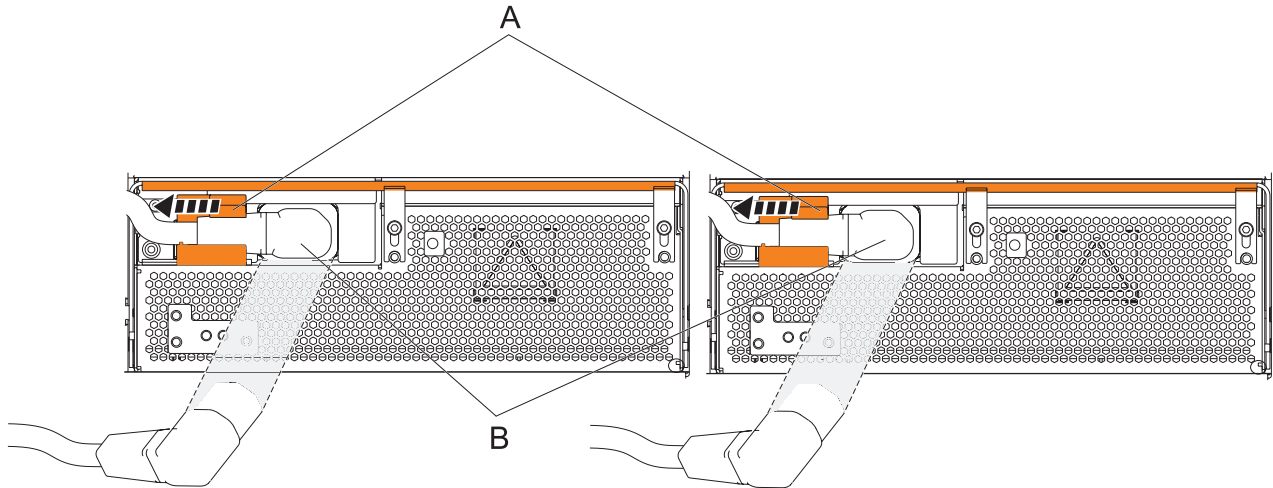

Figure 88. Disconnecting the OCA power cords
- a. Slide the power cord holders **(A)** to the left, located on the front of both the OCAs. See Figure 88 on page 105.